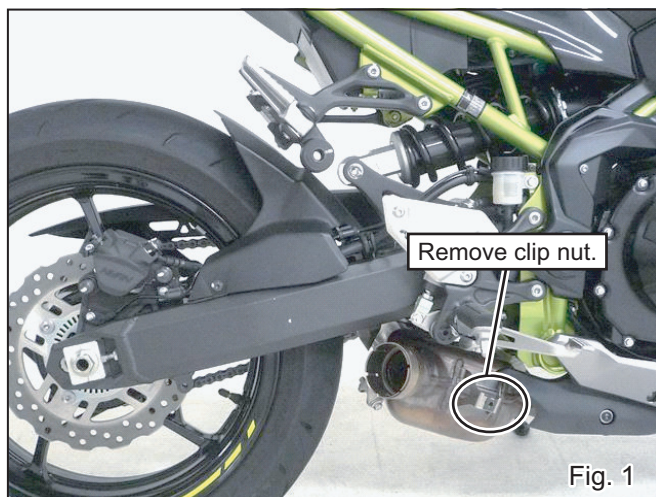

Fig. 1
- 2) According to KAWASAKI service manual, remove stock muffler guard, silencer assembly and gasket from vehicle (See Fig. 1).
- 3) Remove clip nut from stock chamber (See Fig. 1).